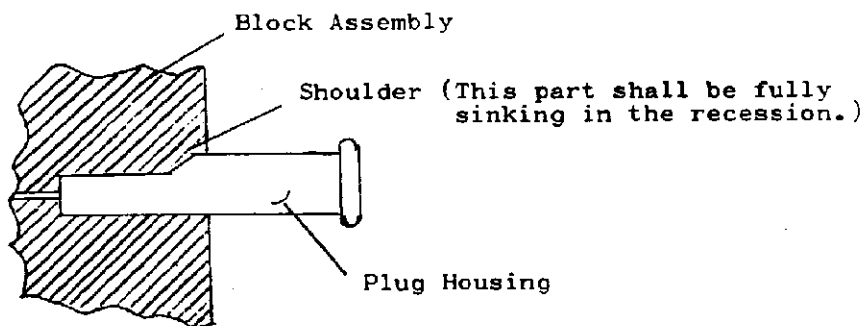

Fig. 6
- (1) Be sure to confirm clicking sound which is heard when receptacle contact fully accepts tab contact as is sufficiently inserted.
- (2) Visually inspect that shoulder of plug housing is bottomed in the recession of block housing as shown in Fig. 6.